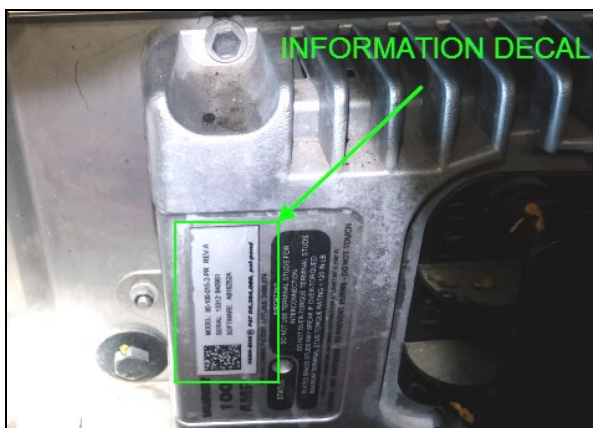

Fig.3 Information decal location
2. On the battery equalizer, validate the unit serial number located on the information decal applied on the left side of the equalizer body (Fig.3 & 4 below).